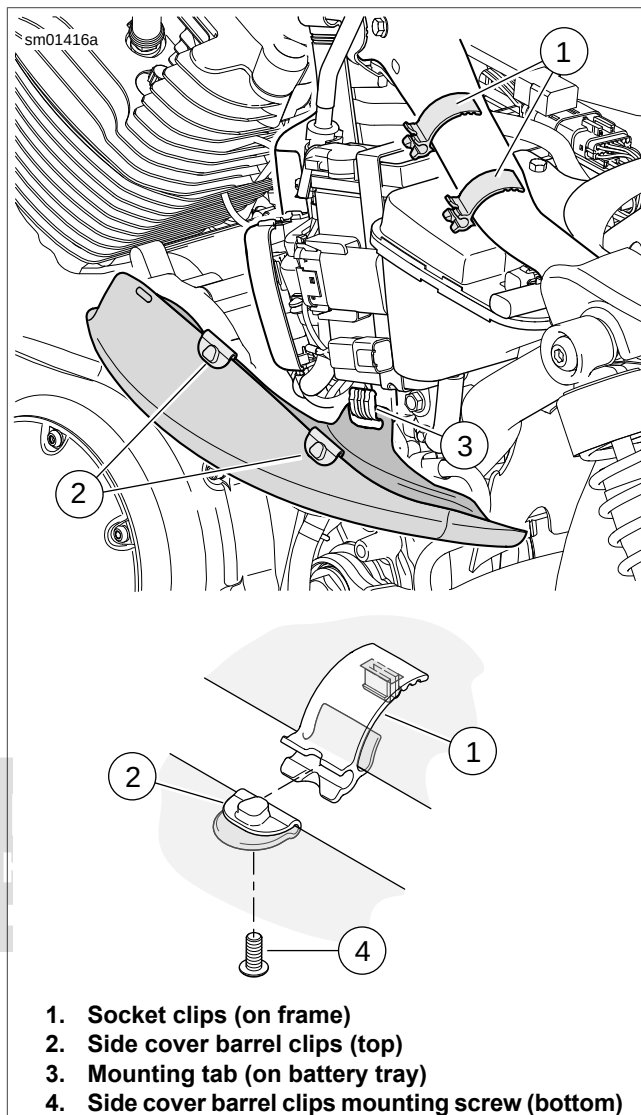

Figure 2-134. Left Side Cover: XL Models
2. See Figure 2-134 or Figure 2-135. Grasp top corners of side cover. Gently pull away from plastic socket clips (XL models) or grommets (XR 1200X) on frame.
- a. **XL models:** See Figure 2-134. Line up barrel clips on side cover with socket clips on motorcycle frame, aligning with front clip first. Press top of side cover into clips until you hear an audible snap.
1. See Figure 2-134 or Figure 2-135. Grasp top corners of side cover. Gently pull away from plastic mounting clips (XL models) or grommets (XR 1200X) on frame.